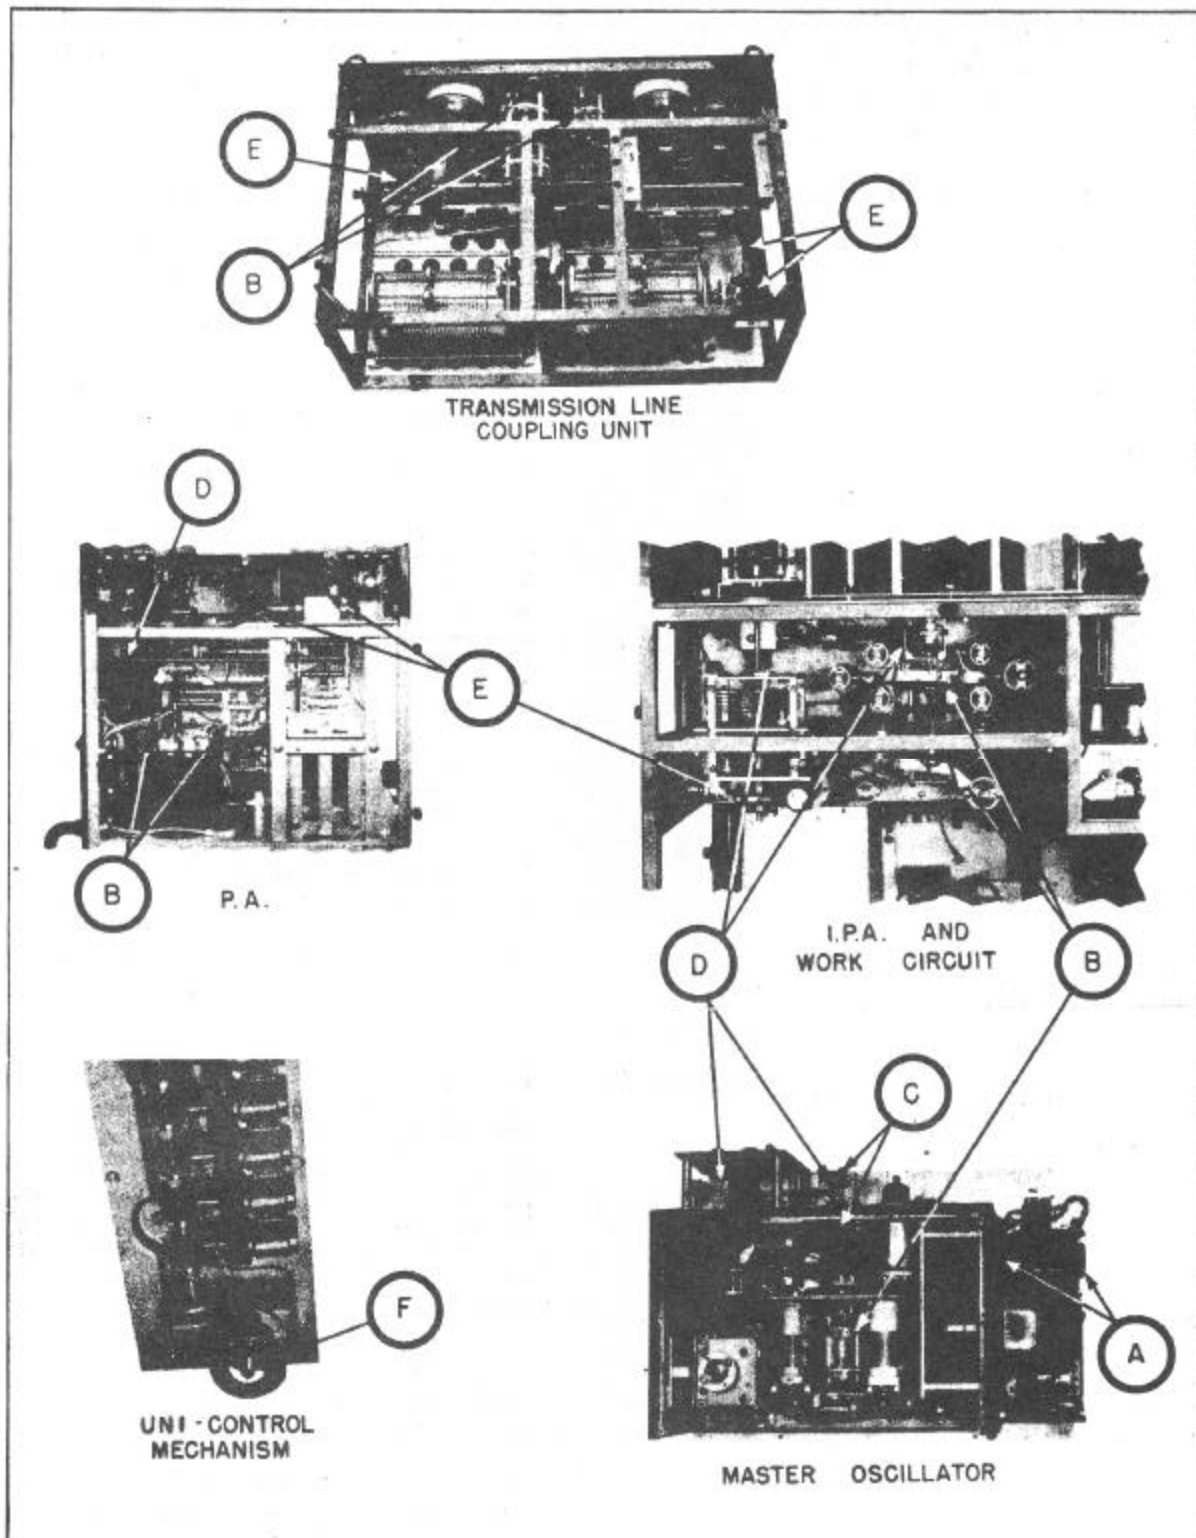

Figure 6-2 Points to be Lubricated
**3. LUBRICATION CHARTS. (See Figure 6-2).**